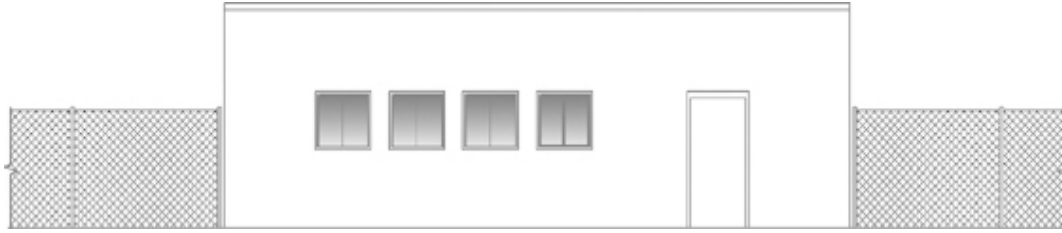

Figure 10-26
- 6 Save your drawing. Your drawing should look like Figure 10-26.